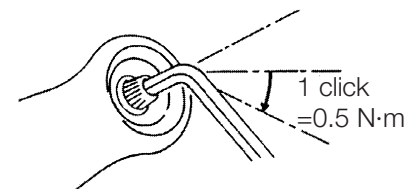

Fig. 5
(2) Then, turn the hex key and click 10 times. (See Fig. 5.)